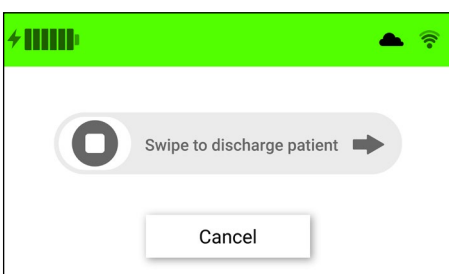

Figure 16. Confirm discharge screen
2. A confirmation screen will appear. Swipe to discharge the patient. (Fig. 16)